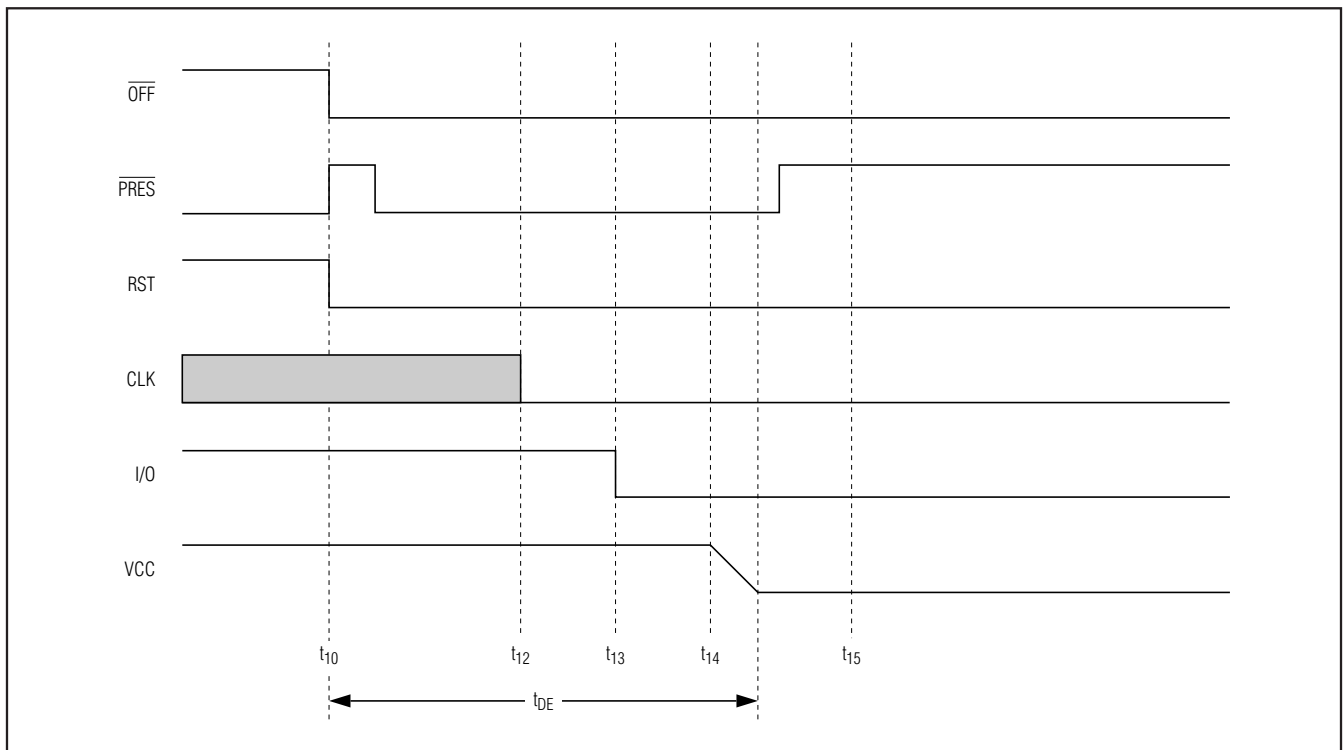

Figure 7. Emergency Deactivation Sequence (Card Extraction)
- **$\overline{\text{CMDVCC}}$ Low Within a Card Session.** Output $\overline{\text{OFF}}$ goes low when a fault condition is detected, and an emergency deactivation is performed automatically (Figure 7). When the system controller resets $\overline{\text{CMDVCC}}$ to high, it may sense the $\overline{\text{OFF}}$ level again after completing the deactivation sequence. This distinguishes between a card extraction and a hardware problem ($\overline{\text{OFF}}$ goes high again if a card is present). Depending on the connector's card-present switch (normally closed or normally open) and the mechanical characteristics of the switch, bouncing can occur on the PRES signals at card insertion or withdrawal.